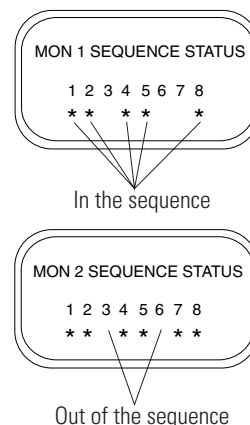

Figure 7. Camera Status
3. Release the GLOBAL and BYPASS buttons. If there is an asterisk under a camera on the monitor, that camera is IN the sequence. If there is no asterisk, that camera is OUT of the sequence. Refer to Figure 7.
4. Press the camera buttons to toggle the status of the cameras. Refer to Figure 7.